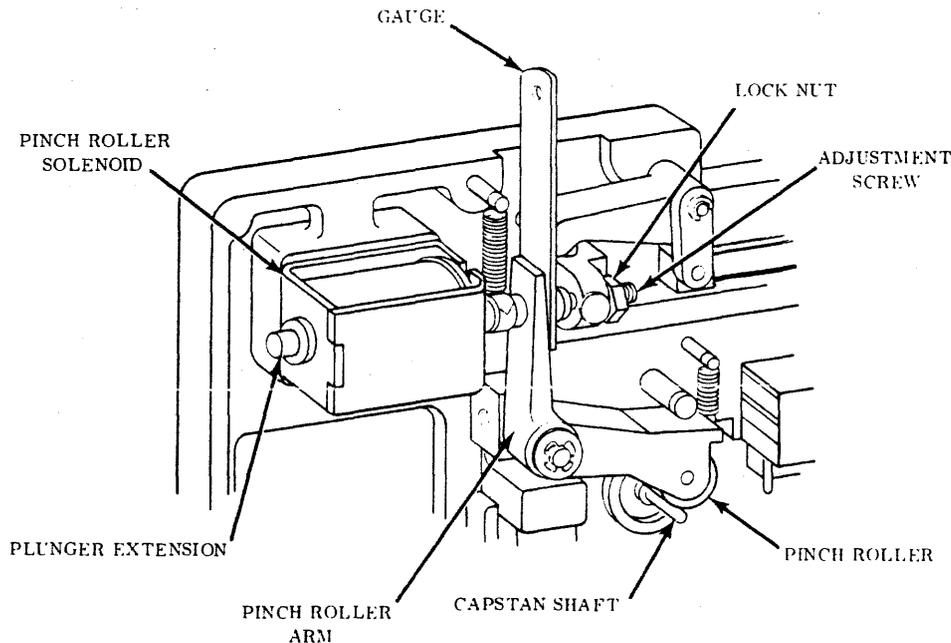

FIGURE 11-1 PINCH ROLLER ADJUSTMENTS
The pinch roller and solenoid adjustments are satisfactory when the pinch roller is caused to rotate with a .013" gauge positioned as shown in Figure 11-1, but will not rotate with a .015" gauge in the same position. To check the adjustments, proceed as described in steps 1, 2, 11, 13 and 14 on pages 11-2 and 11-3.
If adjustments are to be changed, .013", .015" and .017" gauges, an 11/32" open-end wrench and a 5/64" Allen wrench are required. Proceed as follows, referring to Figure 11-1 for identification of parts:
7. Insert a .017" gauge (shim) between the vertical pinch roller arm and the adjustment screw stop tip as shown in Figure 11-1. While pushing the solenoid plunger extension inward, set the
11. Insert the .013" gauge as shown in Figure 11-1, and energize* the pinch roller solenoid. The adjustment is satisfactory when the pinch roller is caused to rotate with the .013" gauge in place but will not rotate with a .015" gauge used in the same manner. Switch power alternately with each gauge; testing the adjustment and, if necessary, correcting as described in steps 1-10 above.